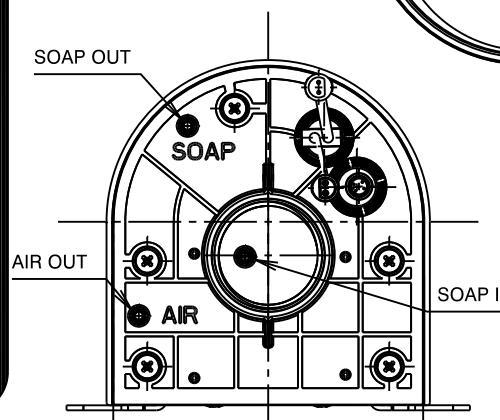

Fig.11 - Soap control unit ports
*Determine a suitable location for installation of control unit(12) near the in-wall conduit exit point before proceeding with control unit mounting.*
**3) Connections :****a) Soap tube and air tube connections, (Fig. 7 & Fig. 11):**